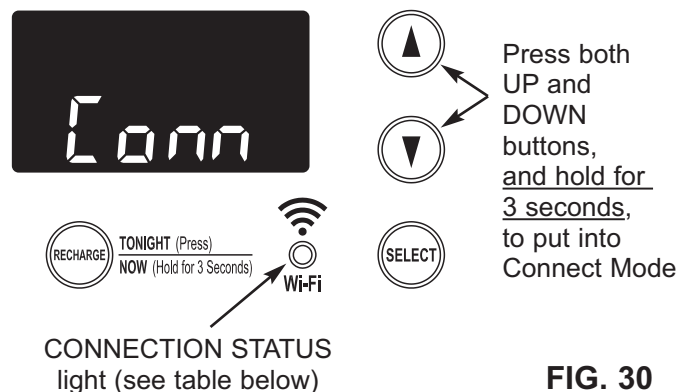

FIG. 30
3. On the water softener's front panel (see Fig. 30), press both the **▲ UP** and **▼ DOWN** buttons, and hold them for 3 seconds.
4. Release the buttons when “Conn” appears in the display (See Fig. 30) and the connection status light begins flashing amber.